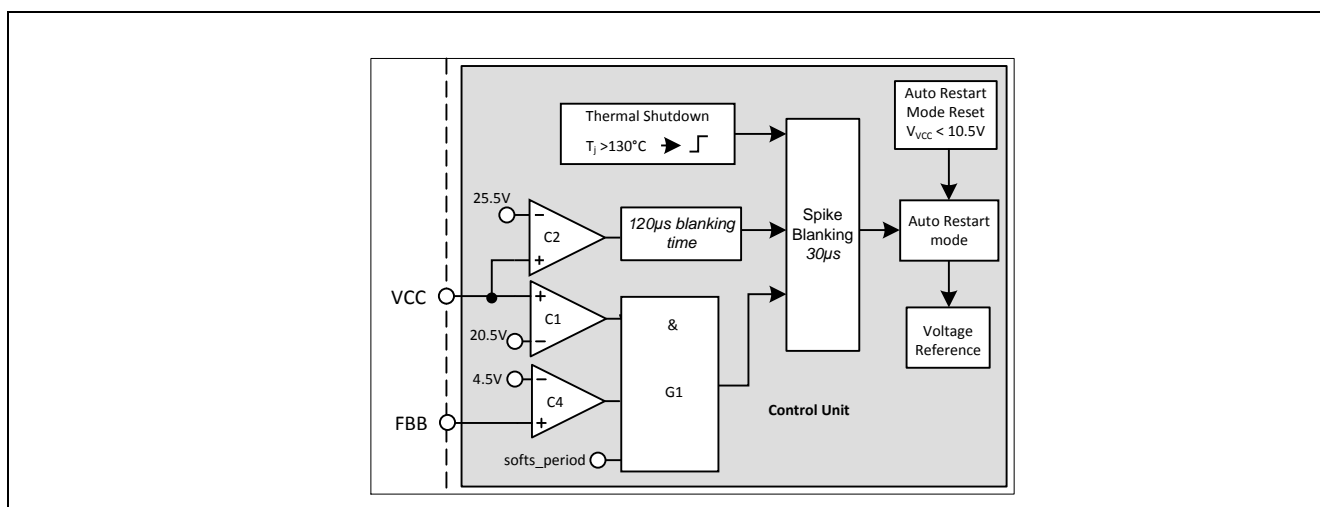

Figure 30: Vcc OVP and OTP
Vcc OVP (1) condition is when VVCC voltage is > 20.5V, VFBB voltage is > 4.5V and during soft start period, the IC enters into odd skip Auto Restart Mode. This condition likely happens during start up at open loop fault (Figure 30).